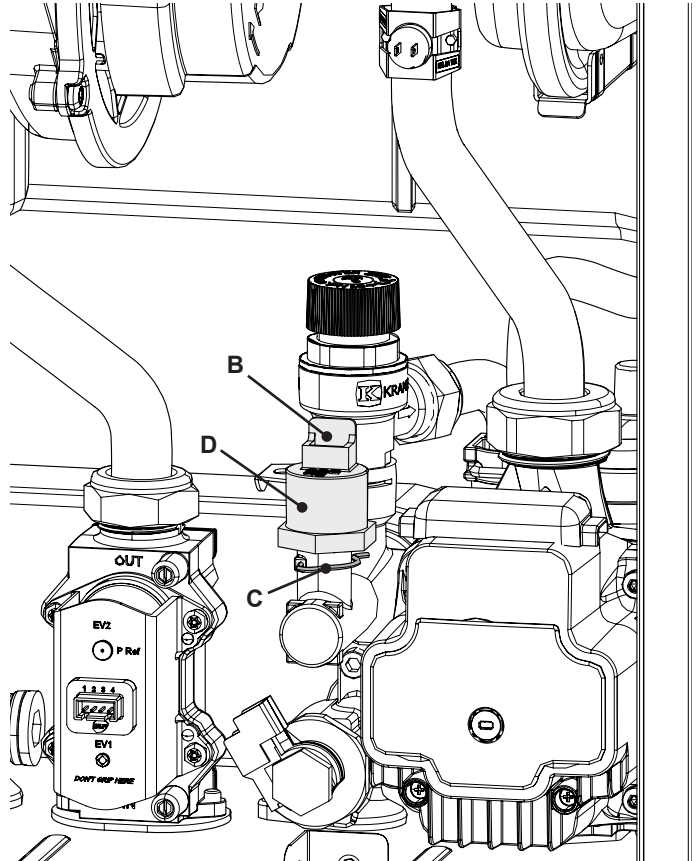

Figure 12.2
- 2 Remove the fixing spring "C" (Figure 12.2) and remove the primary circuit pressure switch "D".
- 3 Disconnect the connector "B" (Figure 12.2).